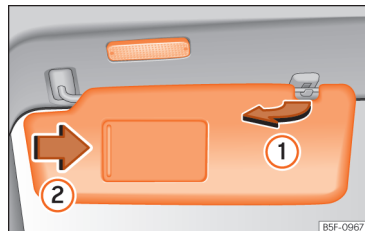

Fig. 91 Sun visor
- The sun visor can be pulled out of its mounting and turned towards the door >>> **Fig. 91** ①.